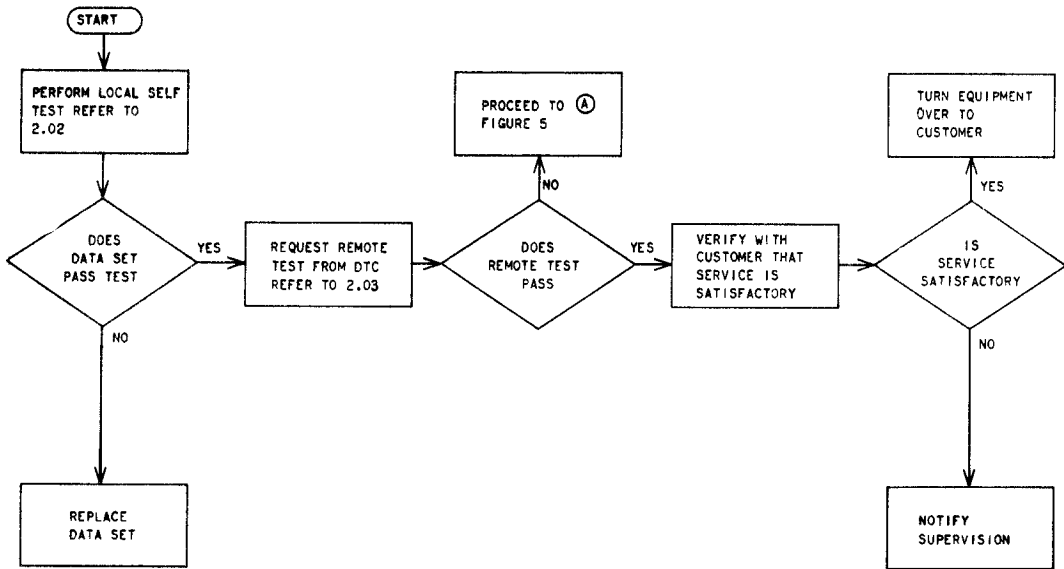

Fig. 4—Installation Tests Flowchart
3.01 This part provides the sequence in which tests are to be performed following an installation. Before proceeding with the tests, verify that the local loop and the end-to-end facilities meet the requirements specified in the sections entitled Data Systems—DATA-PHONE® Service—Direct Distance Dialing Network—Test Requirements for Subscriber, Foreign Exchange, and Remote Exchange Lines (314-205-501) and Data Systems—DATA-PHONE® Service on Direct Distance Dialing Network—Overall Transmission Maintenance Procedures (314-205-500). Refer to Fig. 4 for the sequence of tests.